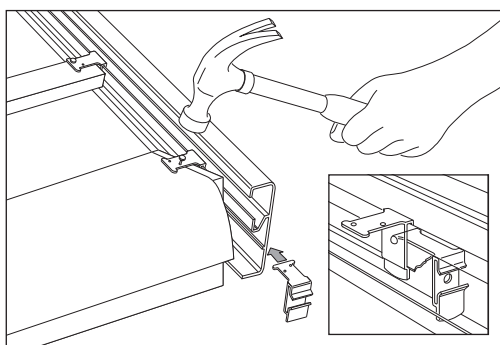

Fig 6 Nail fascia cleat
- 14 Nail fascia cleat to top of fascia board to complete fixing (Fig 6).